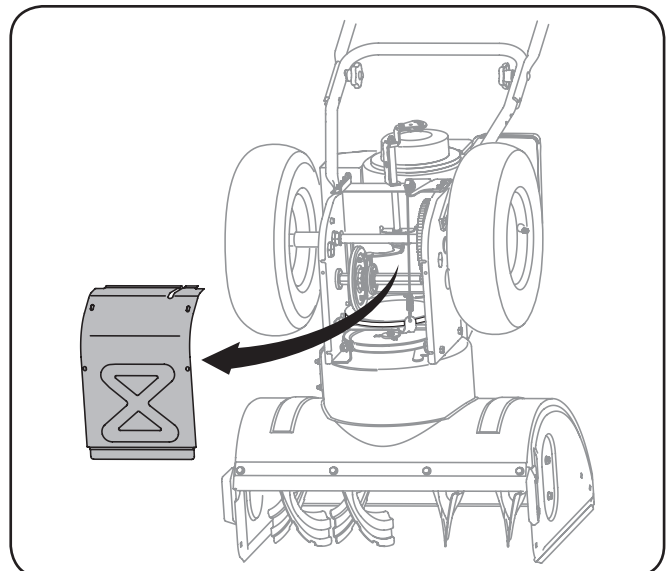

Fig. 7-4
6. Remove the frame cover from the underside of the snow thrower by removing the self-tapping screws which secure it. See Fig. 7-4.
5. Remove the frame cover from the underside of the snow thrower by removing the self-tapping screws which secure it. Refer to Fig. 7-4.